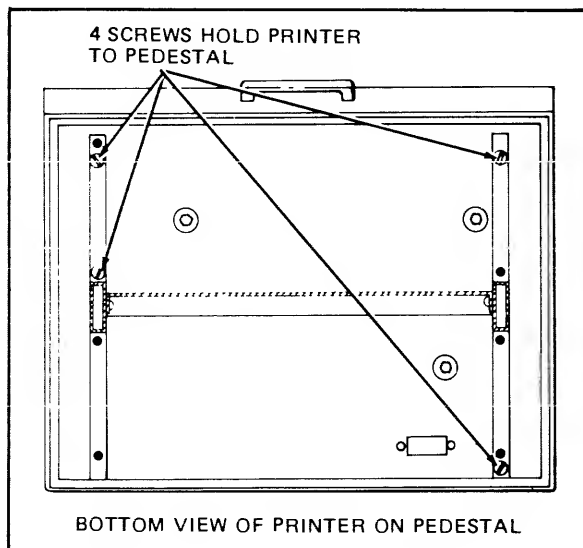

Figure 12.
d. Locate the four threaded holes in the Printer bottom that *did not* retain the rubber feet removed in step c. These holes will receive screws that hold the Printer to the pedestal (figure 12).